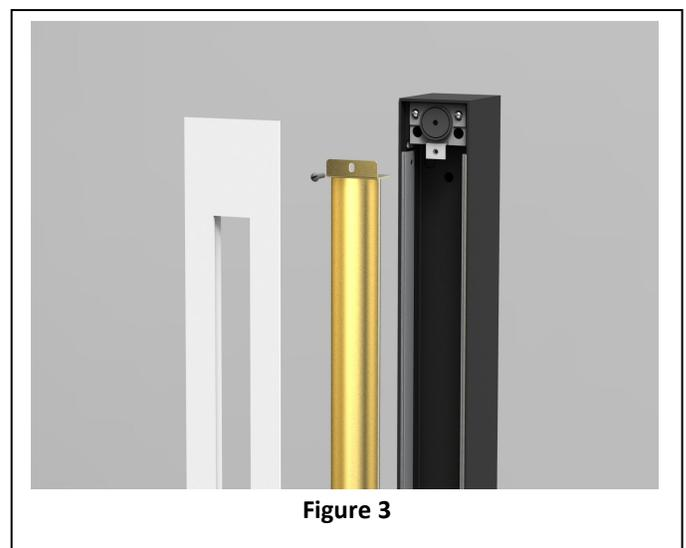

Figure 3
Step 4. Remove front frame of fixture by pulling on the ends. Frame is held with magnets. Do not remove frame by pulling on the center. This may result in bending or other damage. Handle only at the ends. Remove gold reflector unit by removing screw at each end. (Fig. 3)